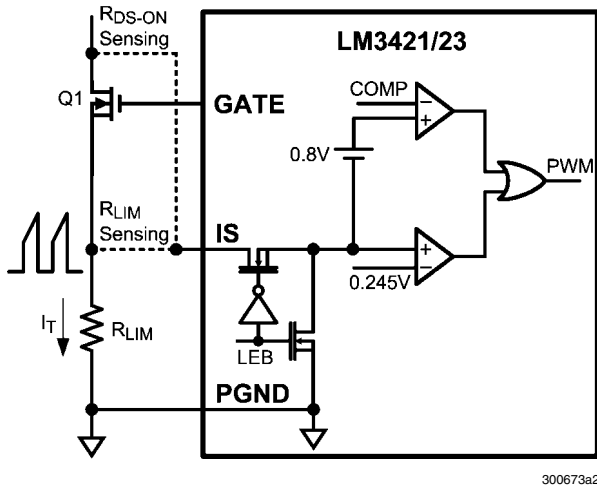

FIGURE 6. Current Sense / Current Limit Circuitry
The LM3421/23 achieves peak current mode control using a comparator that monitors the main MosFET (Q1) transistor current, comparing it with the COMP pin voltage as shown in *Figure 6*. Further, it incorporates a cycle-by-cycle over-current protection function. Current limit is accomplished by a redundant internal current sense comparator. If the voltage at the current sense comparator input (IS) exceeds 245 mV (typical), the on cycle is immediately terminated. The IS input pin has an internal N-channel MosFET which pulls it down at the conclusion of every cycle. The discharge device remains on an additional 210 ns (typical) after the beginning of a new cycle to blank the leading edge spike on the current sense signal. The leading edge blanking (LEB) determines the minimum achievable on-time (t_{ON-MIN}).